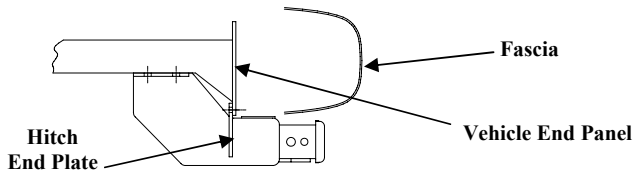

Figure 2
3. Raise hitch into position on carriage bolts, making sure rear face of hitch end plate contacts lip of vehicle end panel as shown in figure 2. Install conical toothed washers and nuts, finger tight.